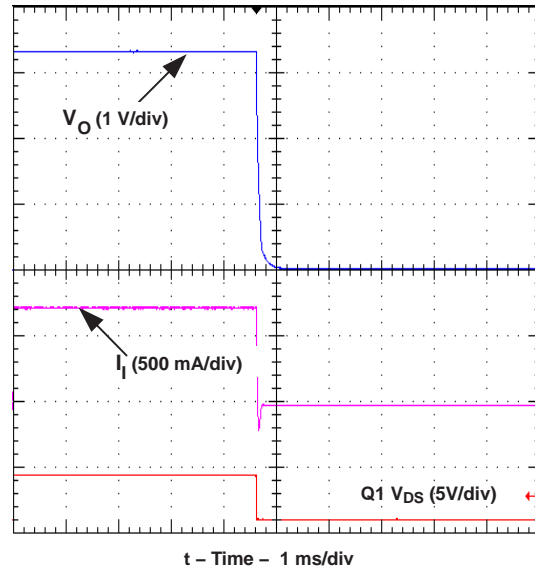

Figure 11. Power Down
**Turn-Off Time:** When a valid input source is removed or if the *Remote On/Off* (pin 2) is used to disable the output, with no external output capacitance, the module powers down within 200  $\mu$ s. Figure 11 shows that, during power down, there is no output voltage undershoot. If used to supply processor I/O voltages, the lack of undershoot ensures the parasitic diodes do not conduct current and potentially cause damage to external circuitry.